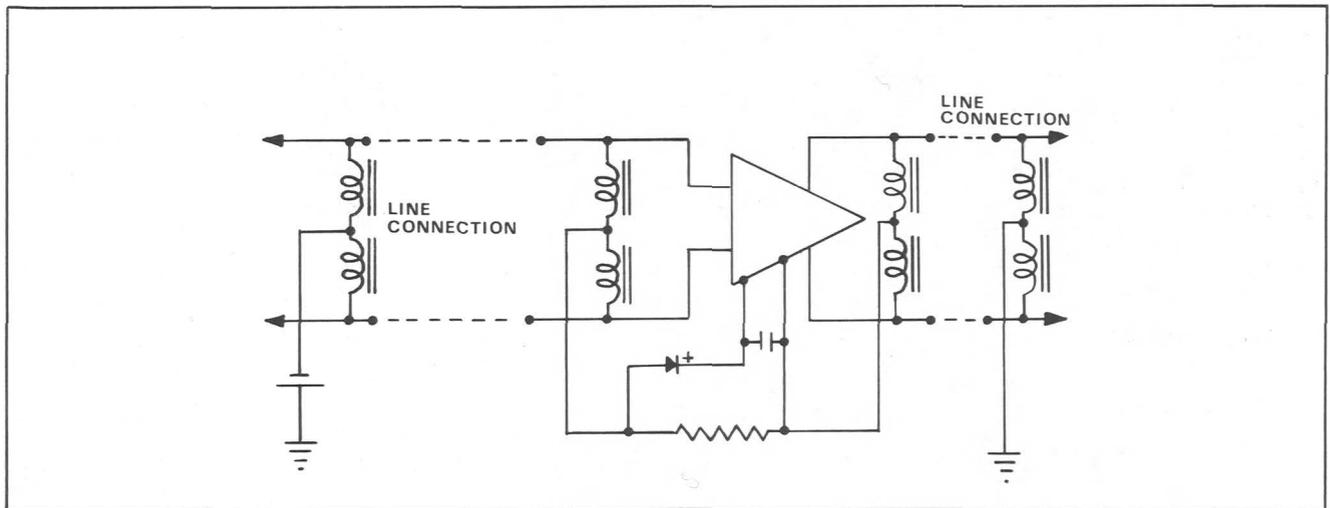

Fig. 4 — Repeater/Simplex D.C. System
2.04 Simplex power supplies can be used as in Fig. 4. This circuit arrangement shows the following: